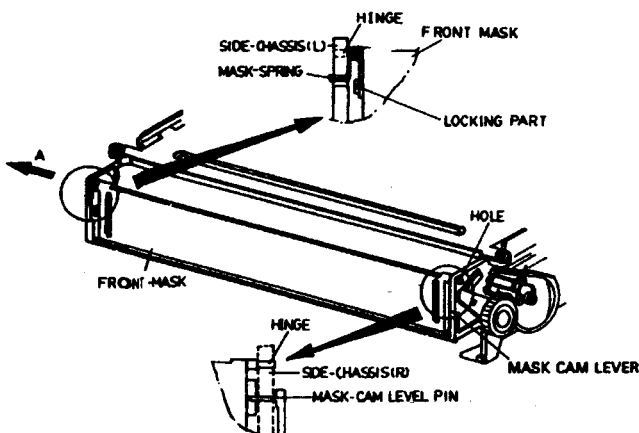

Fig.14
* Upon reinstallation of the front mask slide, lever pin of the mask cam in the side-chassis(R) must be reinstalled. (Ref.Fig14).